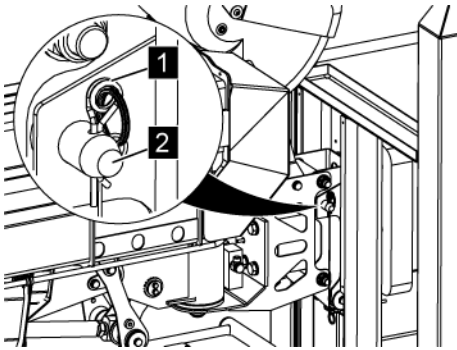

Fig. 159: Split pin
4. → Insert the split pin (Fig. 159/1) into the basket bolt (Fig. 159/2).